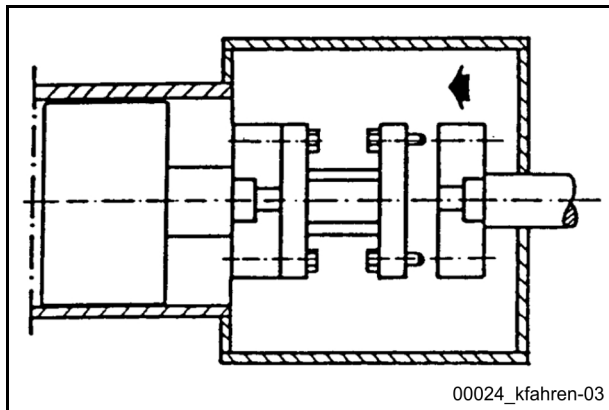

Fig. 345 Insert distance piece
- Insert the distance piece and screw it onto the pumping piston (**Fig. 345**).